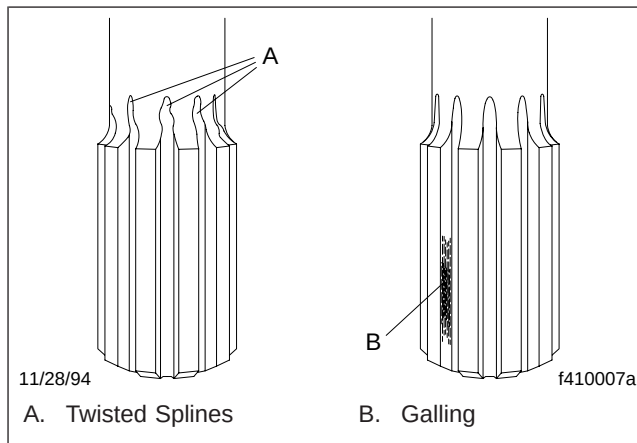

Fig. 1, Damaged Slip-Joint Splines
3. Clean the slip-joint (male and female) splines, then check them for twisting and galling. See Fig. 1. Replace both the sleeve-yoke and the splined shaft if the slip-joint is damaged; see "Driveshaft Tube, Stub Shaft (Slip-Joint), or Tube-Yoke Replacement", in Subject 150. Remove any burrs or rough spots using fine emery cloth.